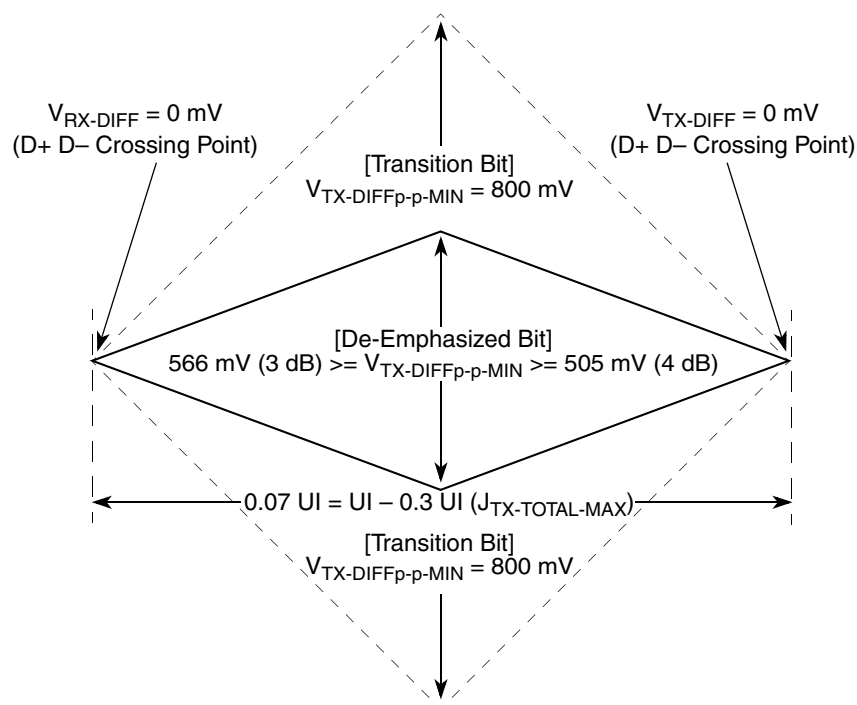
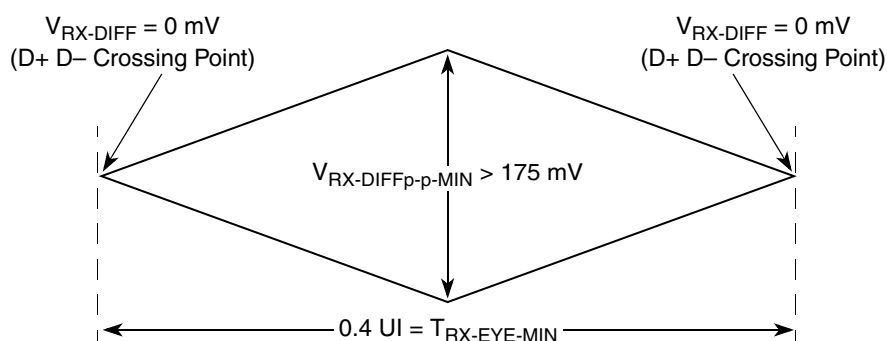
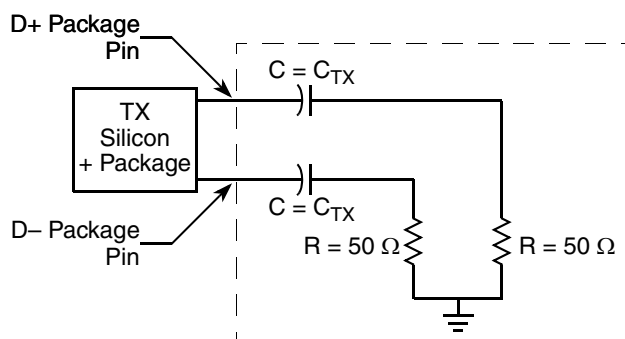

Figure 52. Minimum Transmitter Timing and Voltage Output Compliance Specifications
Figure 53. Minimum Receiver Eye Timing and Voltage Compliance Specification
Figure 54. Compliance Test/Measurement Load
2. Specified at the measurement point into a timing and voltage compliance test load as shown in Figure 54 and measured over any 250 consecutive TX UIs. (Also refer to the transmitter compliance eye diagram shown in Figure 52.)
4. The transmitter input impedance shall result in a differential return loss greater than or equal to 12 dB and a common mode return loss greater than or equal to 6 dB over a frequency range of 50 MHz to 1.25 GHz. This input impedance requirement applies to all valid input levels. The reference impedance for return loss measurements is 50 Ω to ground for both the D+ and D– line (that is, as measured by a vector network analyzer with 50- Ω probes—see Figure 54.) Note that the series capacitors C_{TX} is optional for the return loss measurement.
5. Measured between 20%–80% at transmitter package pins into a test load as shown in Figure 54 for both $V_{\text{TX-D+}}$ and $V_{\text{TX-D-}}$.
The TX eye diagram in Figure 52 is specified using the passive compliance/test measurement load (see Figure 54) in place of any real PCI Express interconnect +RX component.
2. Specified at the measurement point and measured over any 250 consecutive UIs. The test load in Figure 54 should be used as the RX device when taking measurements (also refer to the receiver compliance eye diagram shown in Figure 53). If the clocks to the RX and TX are not derived from the same reference clock, the TX UI recovered from 3500 consecutive UI must be used as a reference for the eye diagram.
4. The receiver input impedance shall result in a differential return loss greater than or equal to 15 dB with the D+ line biased to 300 mV and the D– line biased to –300 mV and a common mode return loss greater than or equal to 6 dB (no bias required) over a frequency range of 50 MHz to 1.25 GHz. This input impedance requirement applies to all valid input levels. The reference impedance for return loss measurements for is 50 Ω to ground for both the D+ and D– line (that is, as measured by a vector network analyzer with 50- Ω probes, see Figure 54). Note that the series capacitors CTX is optional for the return loss measurement.
The RX eye diagram in Figure 53 is specified using the passive compliance/test measurement load (see Figure 54) in place of any real PCI Express RX component.
In general, the minimum receiver eye diagram measured with the compliance/test measurement load (see Figure 54) will be larger than the minimum receiver eye diagram measured over a range of systems at the input receiver of any real PCI Express component. The degraded eye diagram at the input receiver is due to traces internal to the package as well as silicon parasitic characteristics which cause the real PCI Express component to vary in impedance from the compliance/test measurement load. The input receiver eye diagram is implementation specific and is not specified. RX component designer should provide additional margin to adequately compensate for the degraded minimum receiver eye diagram (shown in Figure 53) expected at the input receiver based on some adequate combination of system simulations and the return loss measured looking into the RX package and silicon. The RX eye diagram must be aligned in time using the jitter median to locate the center of the eye diagram.
The reference impedance for return loss measurements is $50\ \Omega$ to ground for both the D+ and D– line (that is, as measured by a vector network analyzer with $50\text{-}\Omega$ probes, see Figure 53). Note that the series capacitors, CTX, are optional for the return loss measurement.
The AC timing and voltage parameters must be verified at the measurement point, as specified within 0.2 inches of the package pins, into a test/measurement load shown in Figure 54.